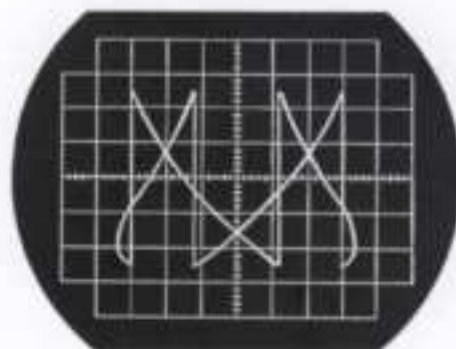

Fig. 10-5 Lissajous' Figure
36. Adjust VR_3 so that a stationary Lissajous' figure (see Fig. 10-5) appears on the oscilloscope screen.